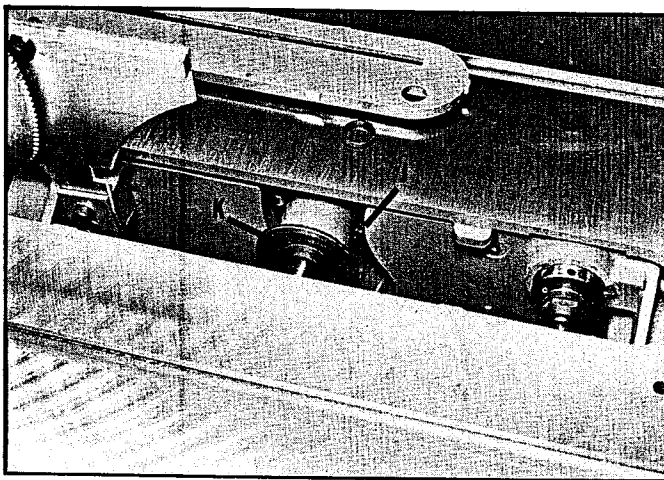

Fig. 15
3. If additional adjustment is necessary to align the saw blade with the splitter, loosen screw (J) Fig. 15, and tap the arbor and flange assembly (K) in or out to bring the saw blade into alignment with the splitter; then tighten screw (J).